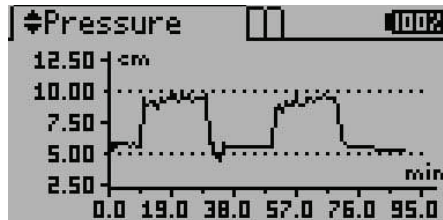

Figure 16 Pressure screen
- **Pressure Screen.** After the test soaking time, the Pressure screen displays the hydrostatic pressure (combined air and water pressure) on a graph updated every minute (Figure 16). The current measurement is indicated by a flashing dot.